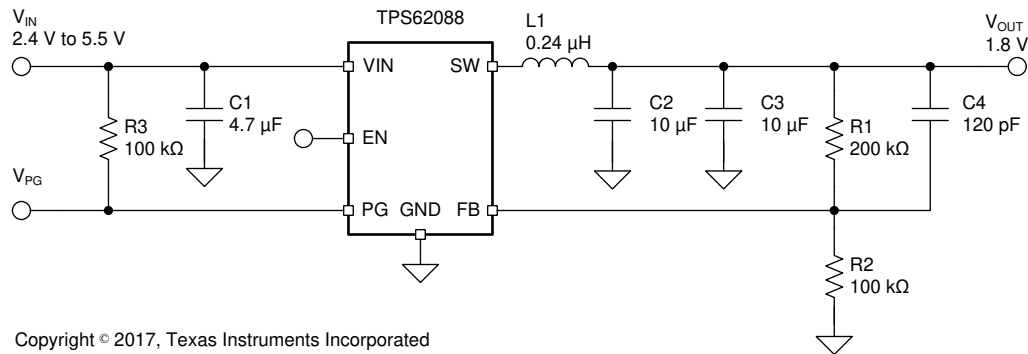

図 8-1. Typical Application of Adjustable Output
**表 8-2. List of Components of 図 8-1**